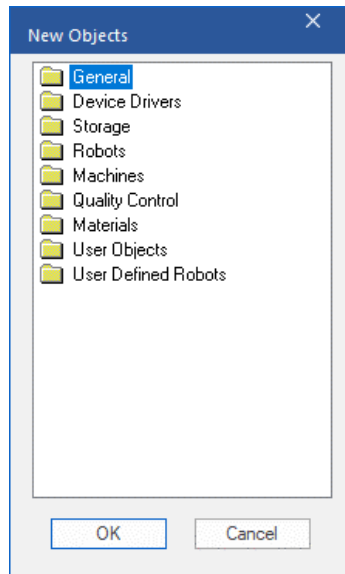

Figure 92: New Objects Dialog Box
1. In the Home ribbon, select **New Object**. The **New Objects** dialog box is displayed as shown Figure 92: New Objects Dialog Box.
1. Select **Edit | New Object**. The New Objects dialog box is displayed as shown in Figure 92: New Objects Dialog Box.
1. From the Home ribbon, select **New Object**. The New Objects dialog box is displayed, as shown in Figure 92: New Objects Dialog Box.